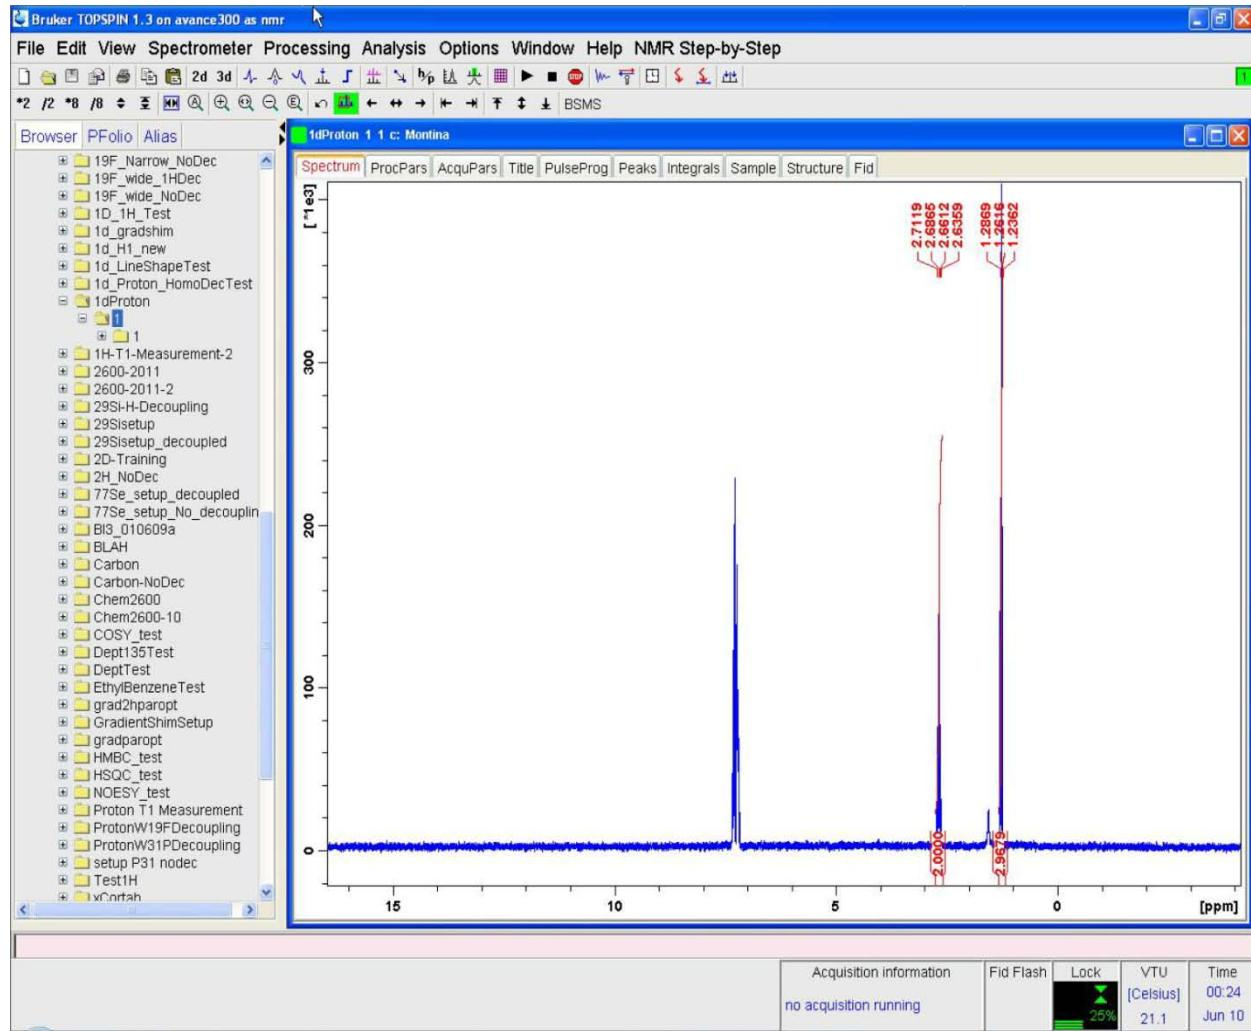

Figure 4 Topspin data window with Montina 1dProton data set showing.
(4) Topspin now shows the data structure for all users of the instrument. Navigate to your username and open up one of your old data sets. If you do not have any old data then you should open up the data set listed under the user Montina and called 1dProton (see figure 4 below). We will use this experiment to create a new experiment/dataset under your username.